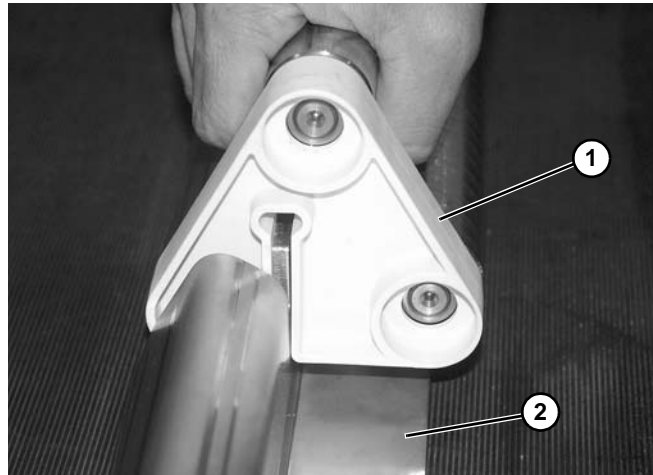
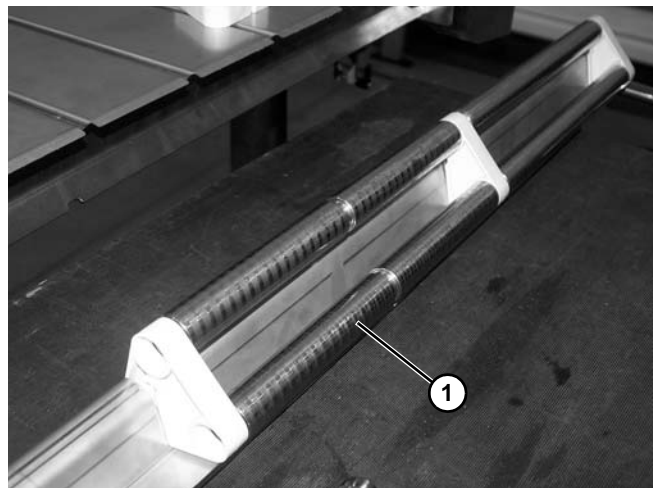

Figure 153
Figure 154
6. Repeat, as needed, to remove pivot tail blocks (**Figure 153, item 1**) off of the mounting brackets (**Figure 153, item 2**) for the remaining spindles (**Figure 154, item 1**).